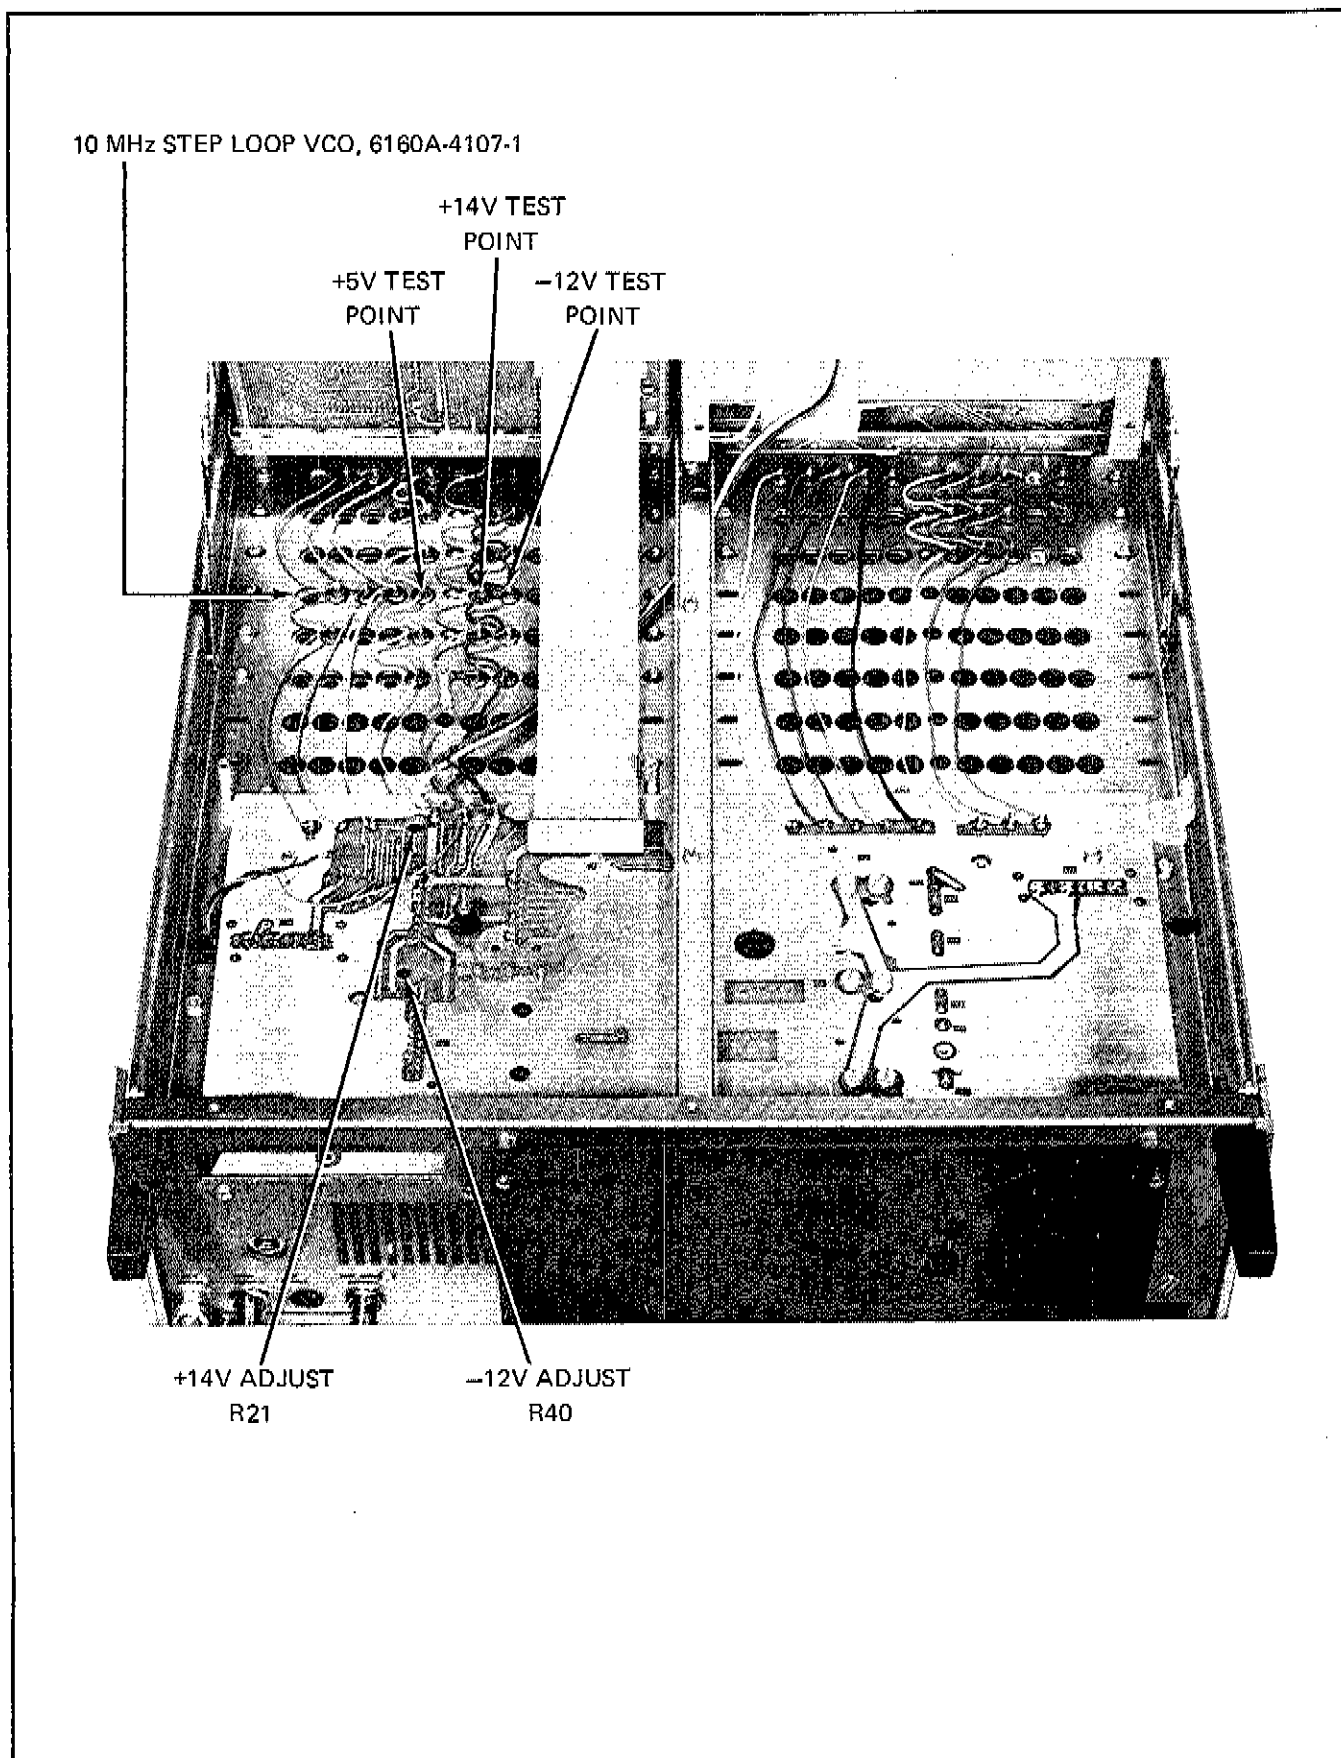

Figure 4-3. POWER SUPPLY TEST POINTS AND ADJUSTMENTS.
- c. Refer to Figure 4-3 and connect DVM between synthesizer chassis and –12V connector on the 10 MHz Step Loop module, 6160A-4107-1. DVM should indicate –12 Vdc  $\pm$ 3 mV. Adjust R40 if necessary (See Figure 4-3 for location).
- d. Refer to Figure 4-3 and connect DVM between chassis and +14V connector on 10 MHz Step Loop module, 6160A-4107-1. DVM should indicate +14 Vdc  $\pm$ 3 mV. Adjust R21 if necessary (See Figure 4-3 for location).
- e. Refer to Figure 4-3 and connect DVM between chassis and +5V connector on 10 MHz Step Loop module, 6160A-4107-1. Check DVM indication to be +5 Vdc  $\pm$ 15 mV.
- Refer to Figure 4-3 and connect DVM between synthesizer chassis and –12V connector on the 10 MHz Step Loop module, 6160A-4107-1. DVM should indicate –12 Vdc  $\pm$ 3 mV. Adjust R40 if necessary (See Figure 4-3 for location).
- Refer to Figure 4-3 and connect DVM between chassis and +14V connector on 10 MHz Step Loop module, 6160A-4107-1. DVM should indicate +14 Vdc  $\pm$ 3 mV. Adjust R21 if necessary (See Figure 4-3 for location).
- Refer to Figure 4-3 and connect DVM between chassis and +5V connector on 10 MHz Step Loop module, 6160A-4107-1. Check DVM indication to be +5 Vdc  $\pm$ 15 mV.